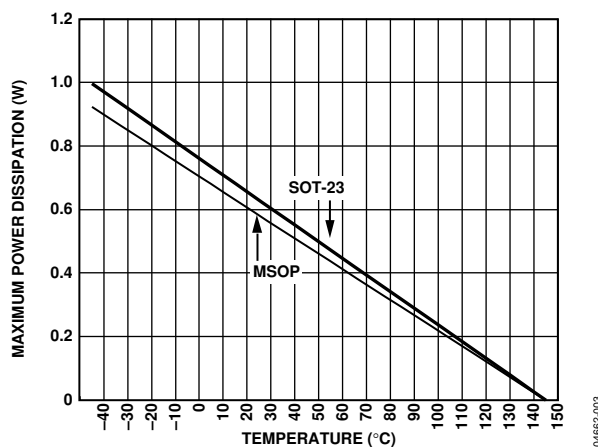

Figure 3. Maximum Power Dissipation vs. Temperature
1 Values relate to the package being used on a standard 2-layer PCB. Refer to Figure 3 for a plot of maximum power dissipation vs. ambient temperature (TA).